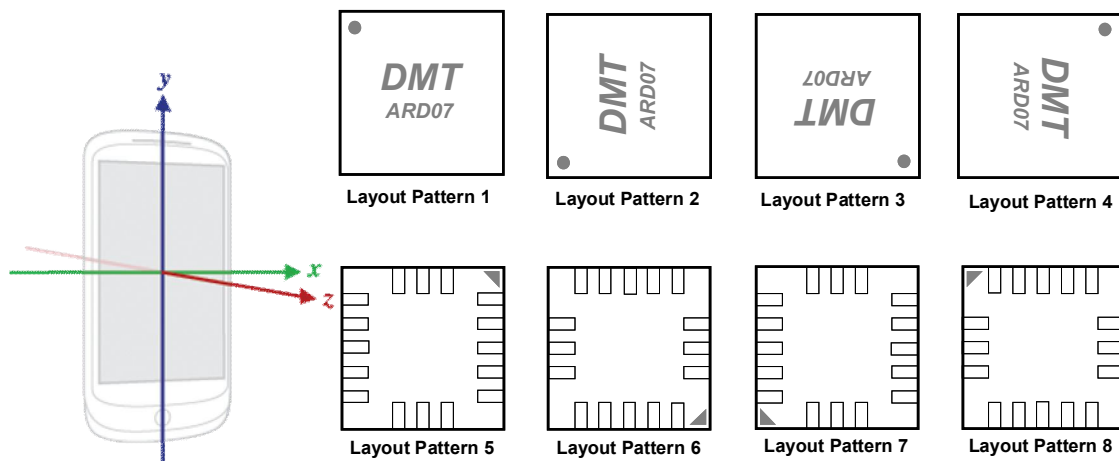

Figure 1: Android SensorEvent Coordinate System and DMARD07 Layout Patterns
2. Specify the g-sensor layout by defining one of the following macro in "dmt050607.h". The example code uses layout pattern 1. See Figure 1 for other g-sensor layout pattern orientations.
The coordinate system used by the Android SensorEvent API is defined relative to the screen of the phone in its default orientation, as shown in the Figure 1. Specify the g-sensor layout to one of the layout patterns illustrated below.